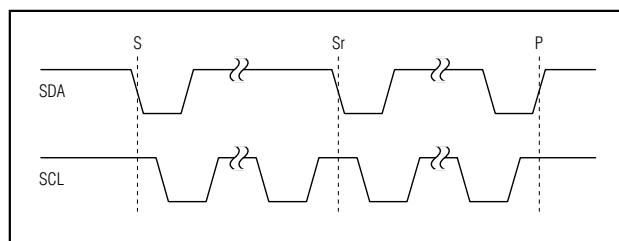

Figure 5. START and STOP Conditions
The master initiates a transmission with a START condition (S), a high-to-low transition on SDA with SCL high. The master terminates a transmission with a STOP condition (P), a low-to-high transition on SDA while SCL is high (Figure 5). A START condition from the master signals the beginning of a transmission to the MAX5115/MAX5116. The master terminates transmission by issuing a STOP condition. The STOP condition frees the bus. If a REPEATED START condition (Sr) is generated instead of a STOP condition, the bus remains active.